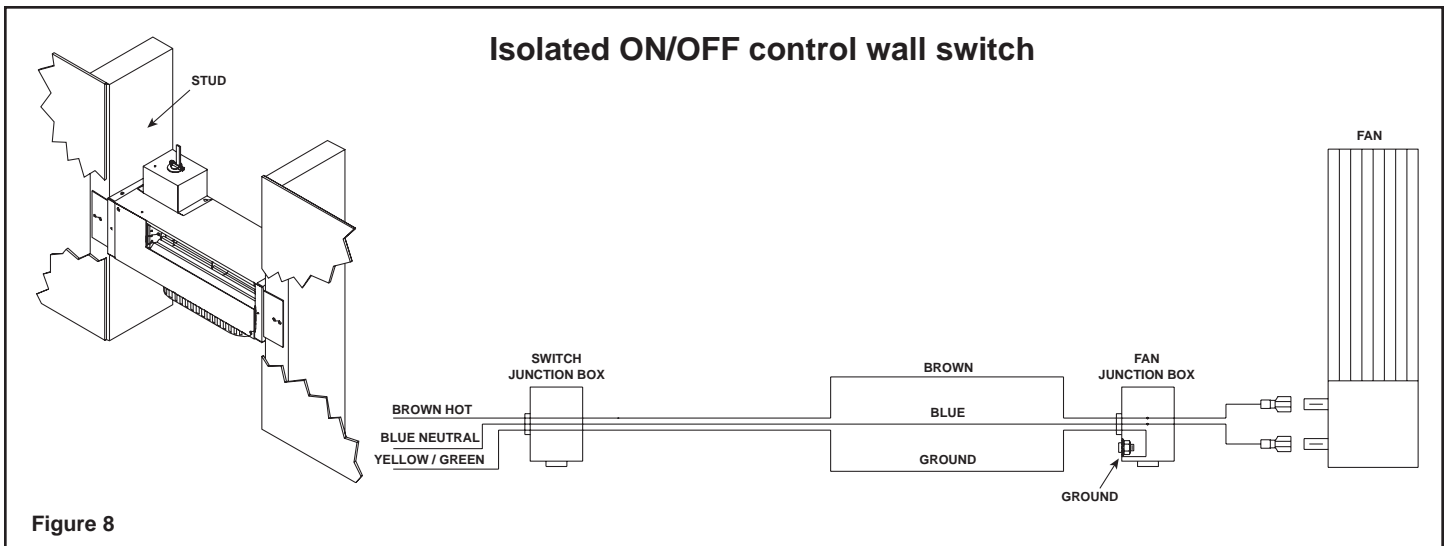
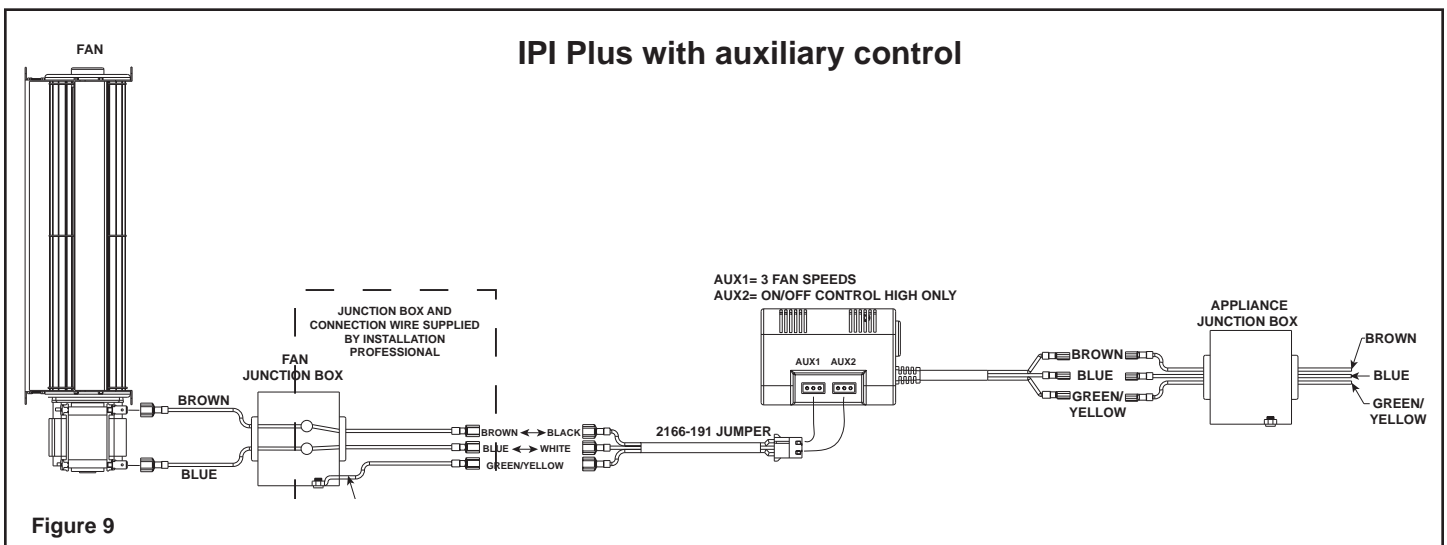

Figure 8
Figure 9
- Wire 240 VAC service TO the wall switch and FROM the wall switch to the fan junction box. Use wire connectors to secure the 240 VAC service wires to the hot and neutral fan wires and screw the 240 VAC ground wire to the fan junction box. See Figure 8 for isolated control wall switch. See Figure 9 for IPI Plus with auxiliary control.